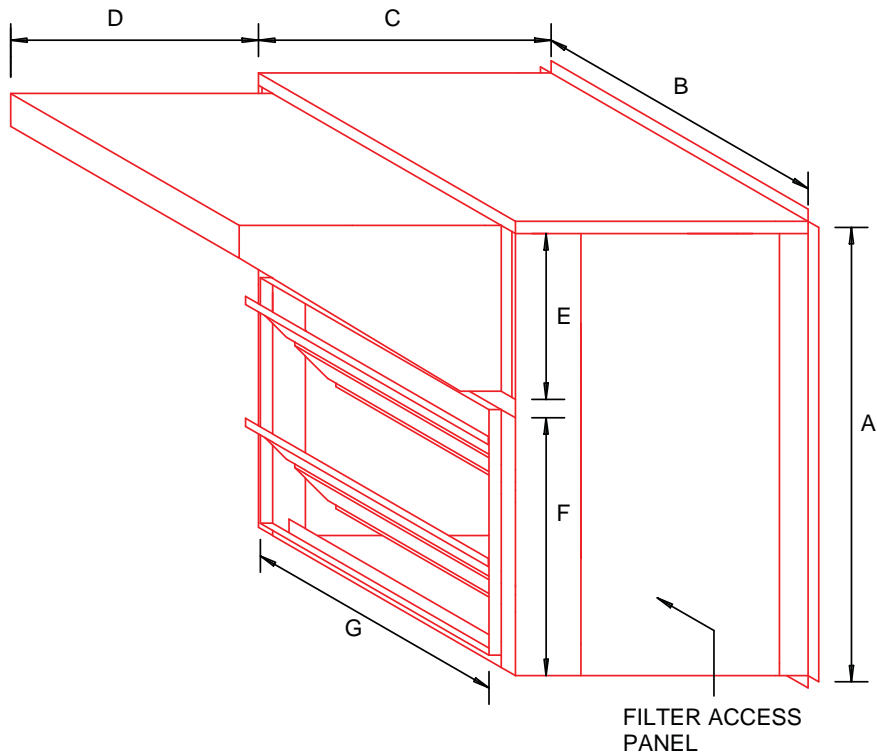

Figure 1
5. Connect the return duct to the economizer. See the chart below for the return opening size. (Figure 1)